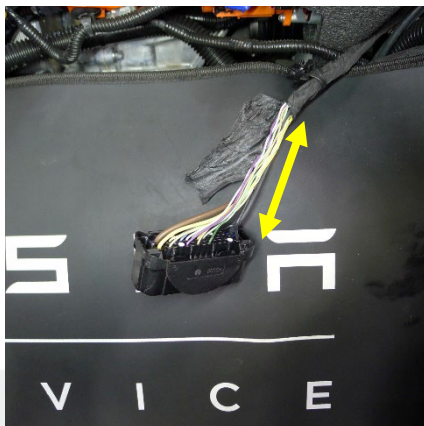

Figure 18
19. Unwrap and remove the electrical tape from the electrical harness for a distance of 150 mm from connector X151 (Figure 18).